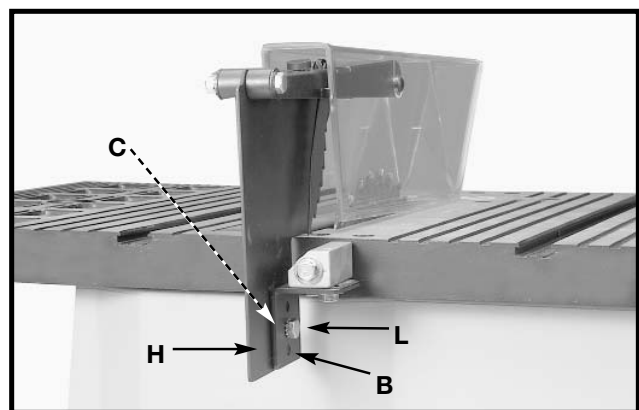
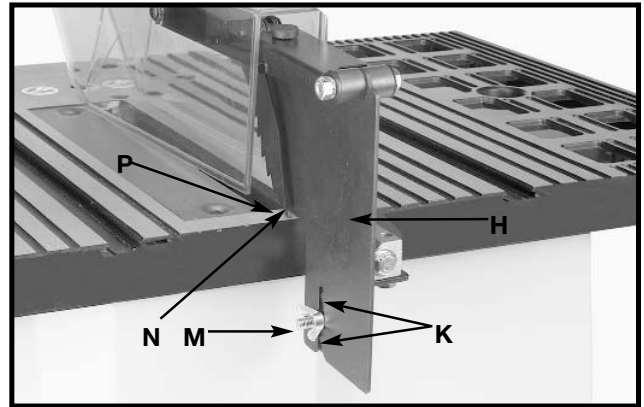

Fig. 14
Fig. 15
6. Attach the splitter (H) Fig. 14 to the splitter support bracket (B). Place a 1/4" external tooth lockwasher and an M6.4 flat washer on an M6x1x20mm hex head screw (L).
7. Insert the screw (L) Fig. 14 through the splitter support bracket (C) and the splitter (H). Place an M6.4 flat washer and a 1/4" external tooth lockwasher on the screw (L). Thread an M6x1 wing nut (M) Fig. 15 on the screw (L) Fig. 15.
**NOTE:** Before tightening the wing nut (M) Fig. 15, make certain a gap of at least 1/8" is between the bottom edge of the splitter (N) and the top surface of the table (P) and that the protrusions (K) are inside the slot of the splitter assembly (H).